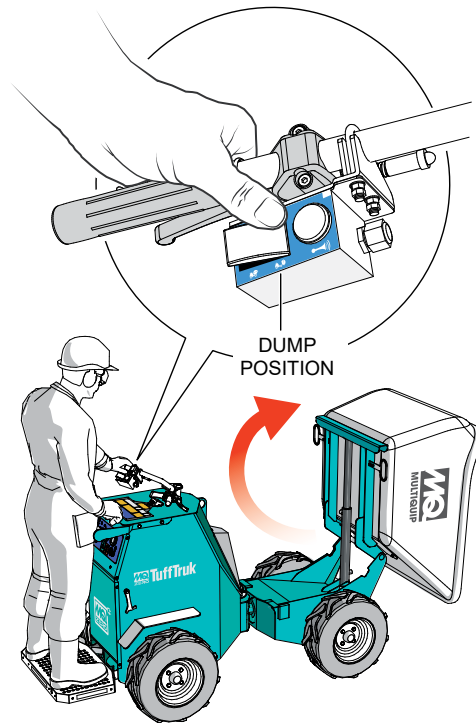

Figure 18. Tub Vertical Position
1. To place the tub in the dump position (Figure 18) press the dump switch to the right. The tub will move to the vertical position and dump its contents.